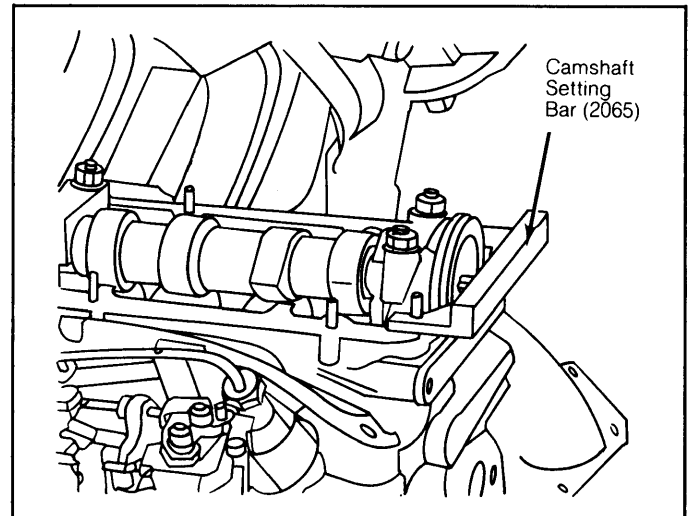

**Fig. 8: Injection Pump Gear Removal**
3) Install Gear Puller (3032). See Fig. 8. Be sure jaws of puller are at right angles to cross-bar and point in direction of spindle rotation. Carefully apply tension to puller. Using a light hammer, strike puller bolt lightly, until gear loosens from pump shaft taper.